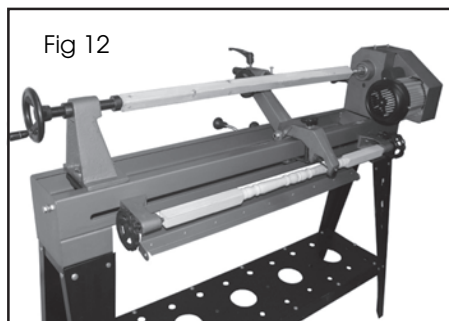

Fig 12
2. Set the new workpiece in the lathe by marking the centre point as above and securing in position between the head and tailstock as shown in Fig 12.